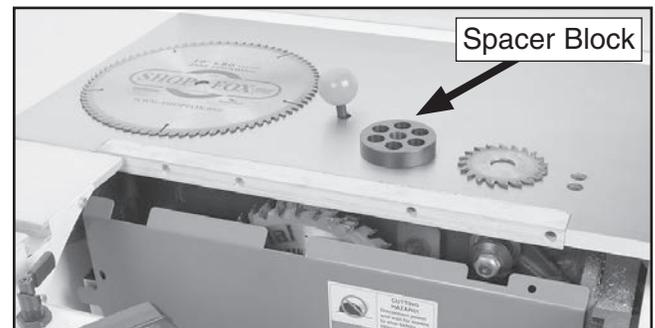

Figure 61. Dado blade installed on saw with new zero-clearance table insert.
4. Remove the spacer block installed on the arbor behind the standard blade you removed in **Step 3**. The spacer block is not used when dado blades are installed (see **Figure 61**).